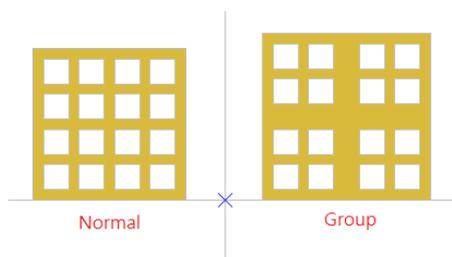

Fig. 3.3.25
**Group Row/ Col:** Set the amount of the cells in a row/ column as a group, see Fig.3.3.25.